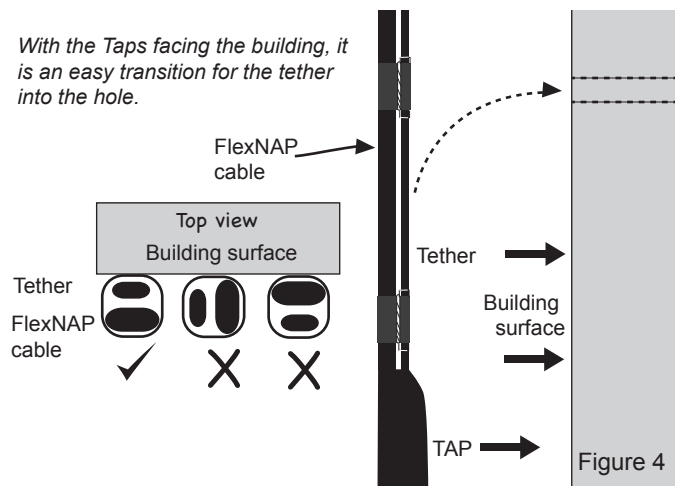

Figure 4
5.6 Before securing the cable to the building, verify that the TAPs are facing the building. If they are not, rotate the cable as necessary (Figure 4).